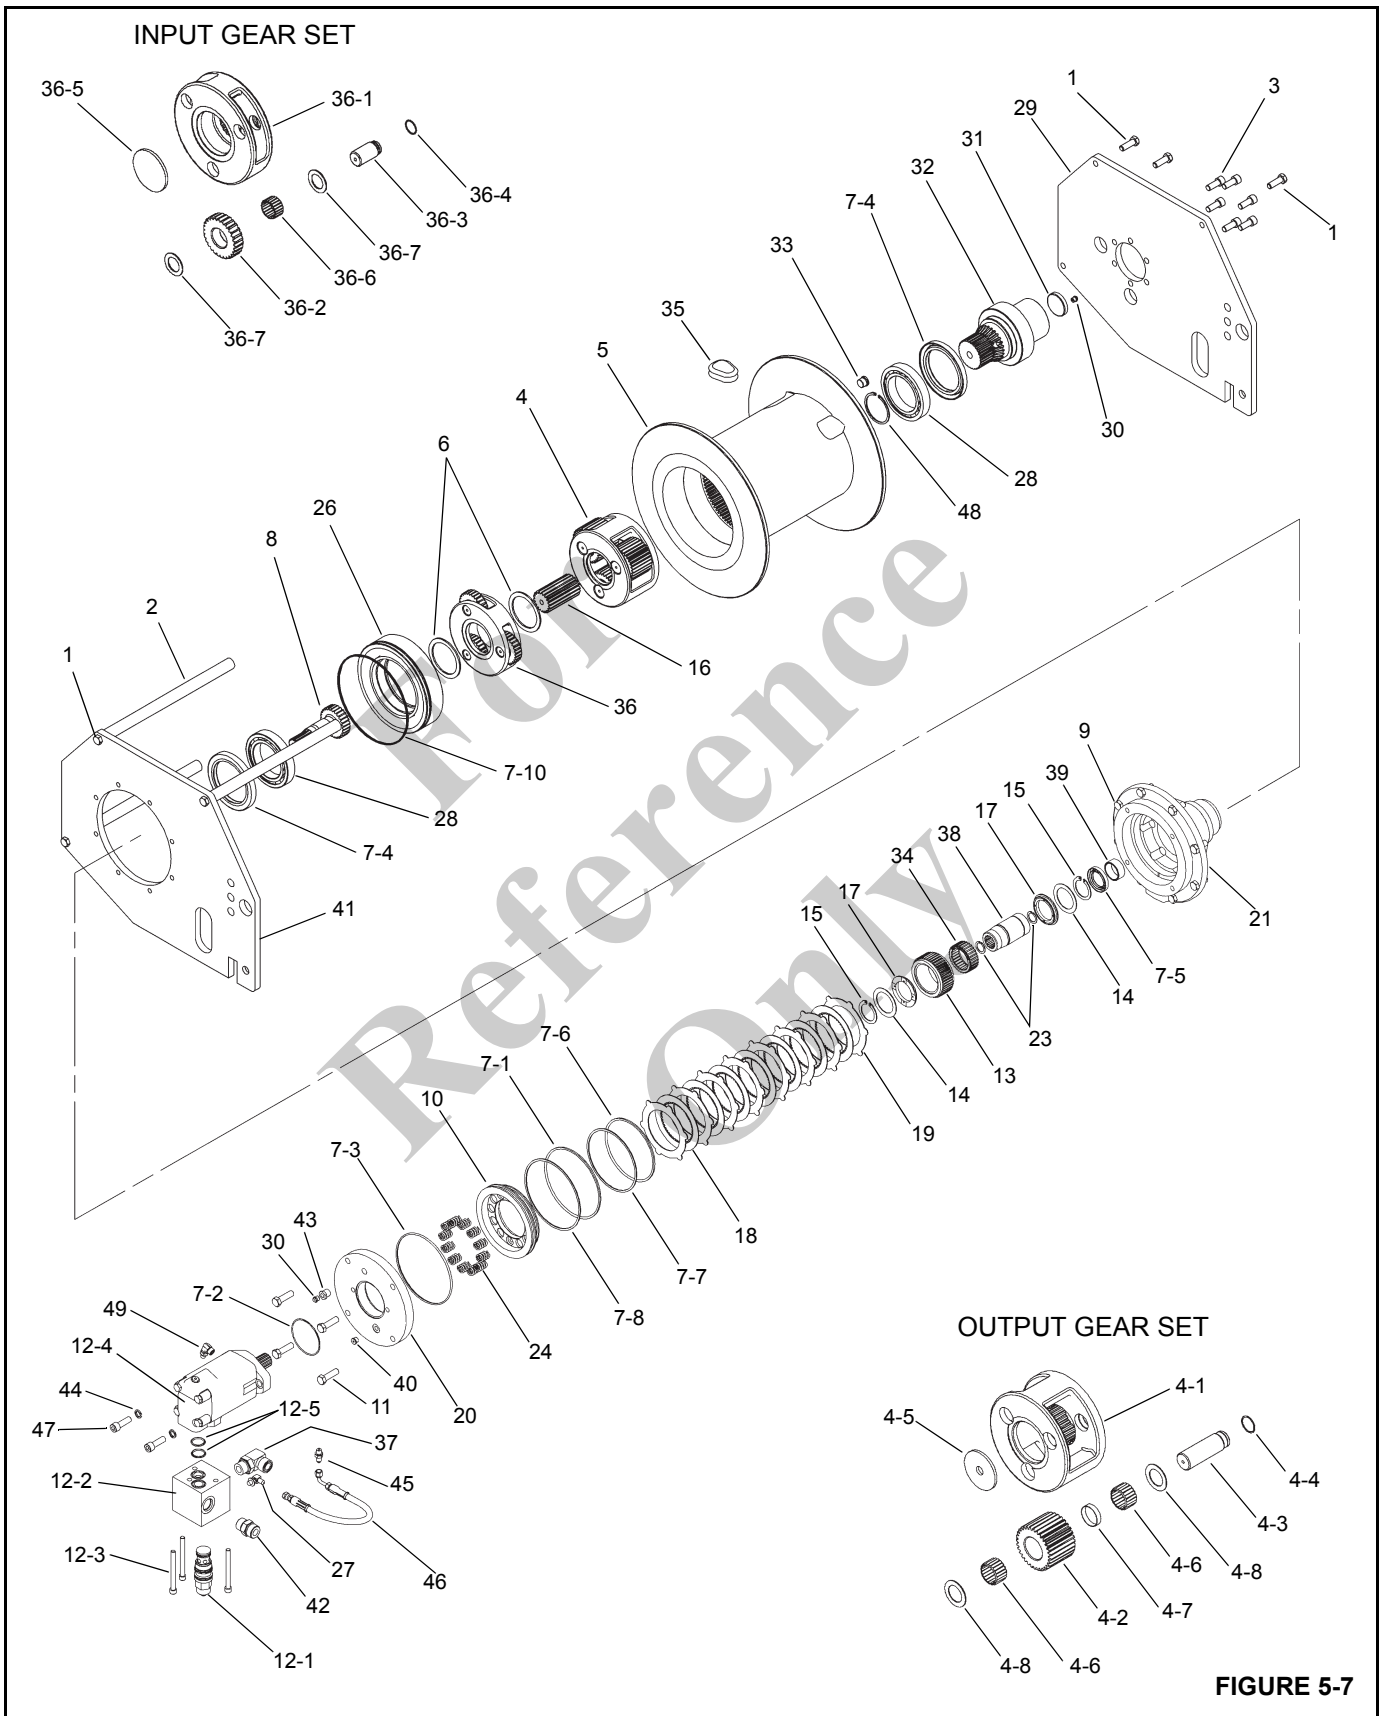

FIGURE 5-7
**NOTE:** See Figure 5-7 for item number (#) identification.
2. Remove the brake hose (46) from the straight adapter (45).
3. Remove the motor and counterbalance assembly from the hoist by removing two capscrews (47) and two
- Inspect the cable drum (5) for structural integrity and replace if necessary.
- Attach the shaft (32) to the side plate (29) using the six capscrews (3). Make sure the vent (30) is oriented properly. Torque the capscrews to 100 to 110 lb-ft.
- Install retaining the ring (48) onto the shaft (32)
1. Evenly remove the four capscrews (11) holding the brake cover (20) in place. Spring pressure will raise the cover up as the capscrews are loosened. Remove the cover from the brake housing.
2. Remove the springs (24) from the piston and check the springs for free height. Each spring should measure at least 1.200 inches with no force.
3. To remove the brake piston (10), install two pieces of all-thread (3/8-16NC) in the bottom of two spring pockets.
6. Remove the stator plates (19) and friction discs (18) from the brake housing and check for excessive wear. Be sure to check the top stator plate for scoring caused by the removal tools and polish if necessary. Friction discs should measure no less than 0.055 in. thickness and stator plates should measure no less than 0.068 in. thickness.
8. Examine the bushing (39) in the brake housing for wear and replace if necessary.
9. If brake housing (21) is removed from the hoist, examine the journal on the brake housing where the seal (7-4) runs for wear. If severely worn, replace the brake housing.
10. Carefully disassemble the brake driver/clutch assembly noting the direction of lockup for the clutch (34). The clutch assembly must be re-assembled with the arrow pointing in the proper direction for the hoist to function properly. Inspect the O. D. on the input driver (38) and I. D. of the brake driver (13) where the clutch (34) runs. If there is any pitting or spalling on the driver then it and the clutch must be replaced.